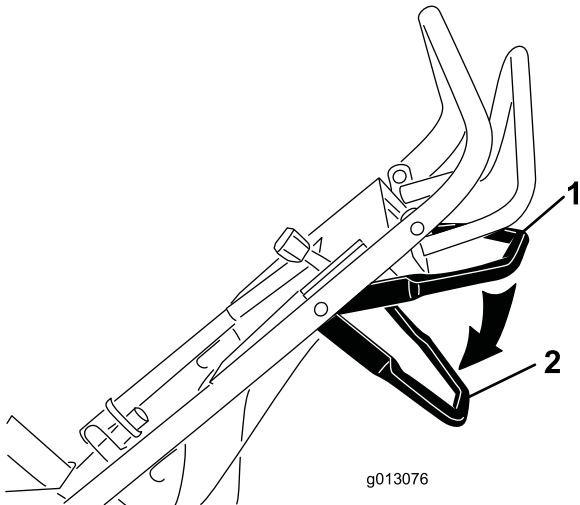

**Figure 15**
- To move forward, press the control lever forward (Figure 15). The further forward you push it, the faster the machine will travel.
- To move in reverse, pull the control lever rearward (Figure 15). The further rearward you pull it, the faster the machine will travel.
- To stop, release the control lever (Figure 15).